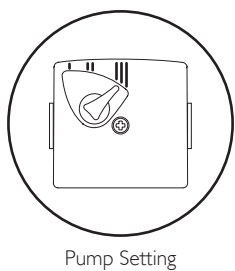

Fig. 88
3. A standard replacement Grundfos 15-60 head can now be fitted. Connect the pump wiring to the new head. **The pump speed must be set to 3 (Fig. 88).**